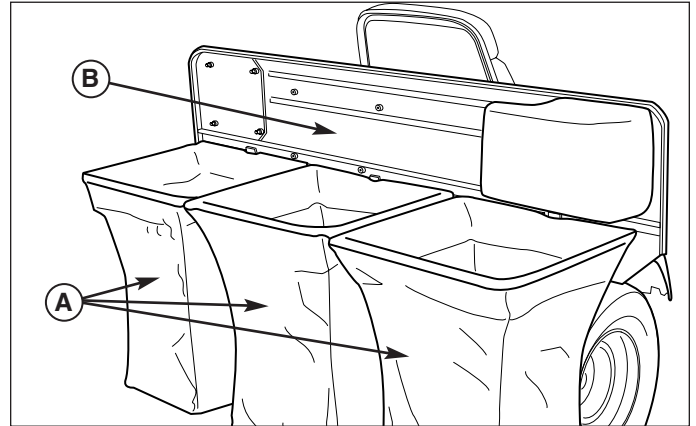

Figure 2. Install the Bags
1. See Figure 2. Hook the bags (A) on the back plate (B). *Note: If desired, the bags can be lined with 30 gallon trash bags for easy disposal.*